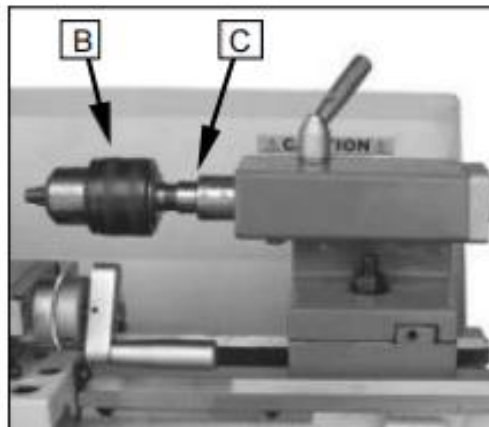

Fig. 28
Use the drill chuck to hold centering drills and twist drills in the tail stock- (B) (Fig.28)
An arbor is necessary for mounting the drill chuck in the tailstock. It has a No. 1 Morse taper. (C) Fig.28